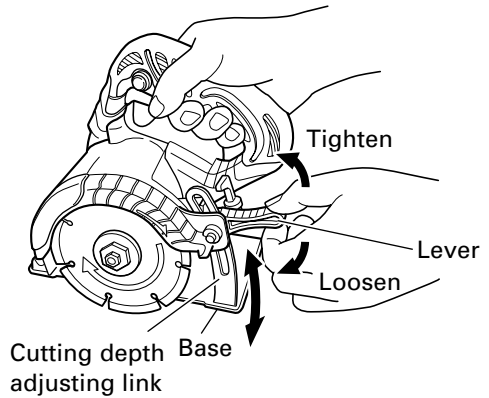

Fig. 2
7. Cutting depth adjustment (Fig. 2)